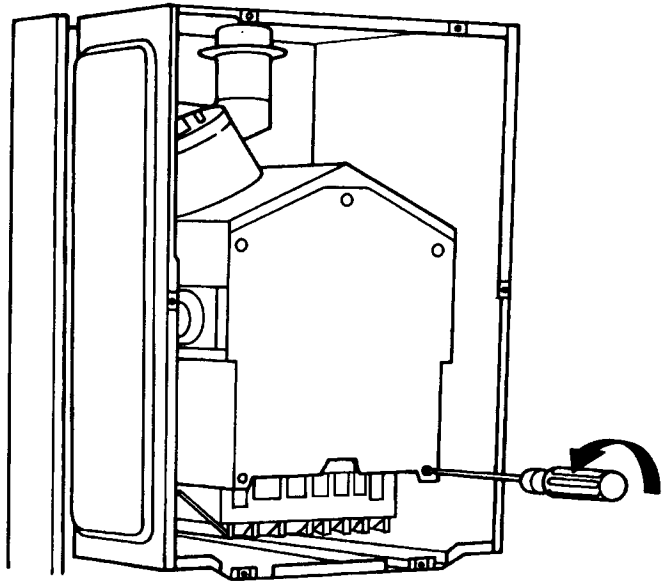

Fig. 25
Refer to Figs. 25,26 & 27
- 8.6.3 Remove front of combustion chamber by releasing five screws (fig. 25).